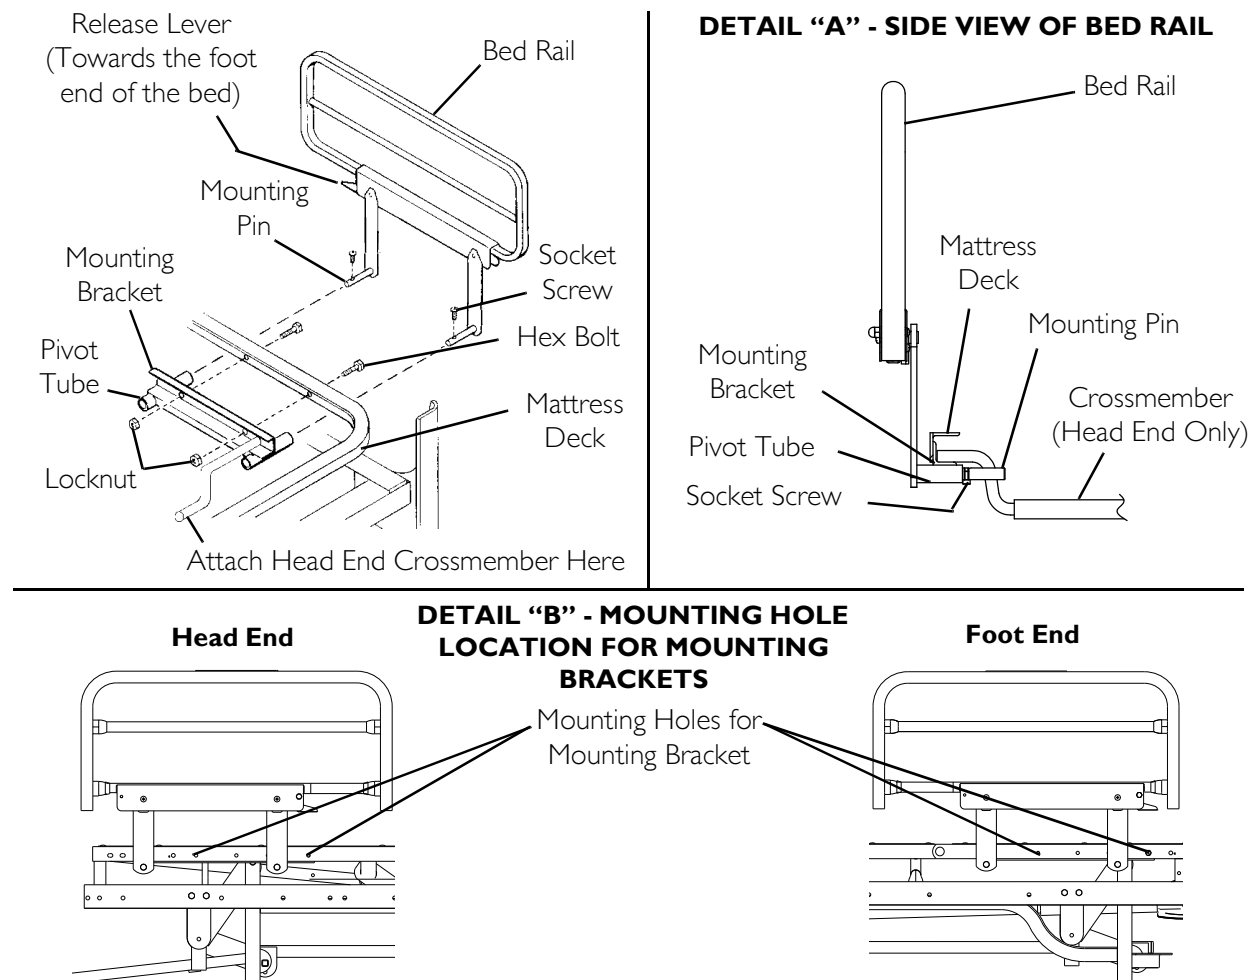

FIGURE 2 Installing 6815A, 6816A and 6803A Bed Rails
NOTE: For this procedure, refer to FIGURE 2.
2. Locate the proper mounting holes on the bed to install the bed rails. Refer to Detail "B" of FIGURE 2.
3. Position the mounting bracket on the mattress deck. Refer to Detail "B" of FIGURE 2.
7. Head End Mounting Bracket Only - Position the crossmember between the two bed rails as shown in Detail "A" of FIGURE 2 on page 3.